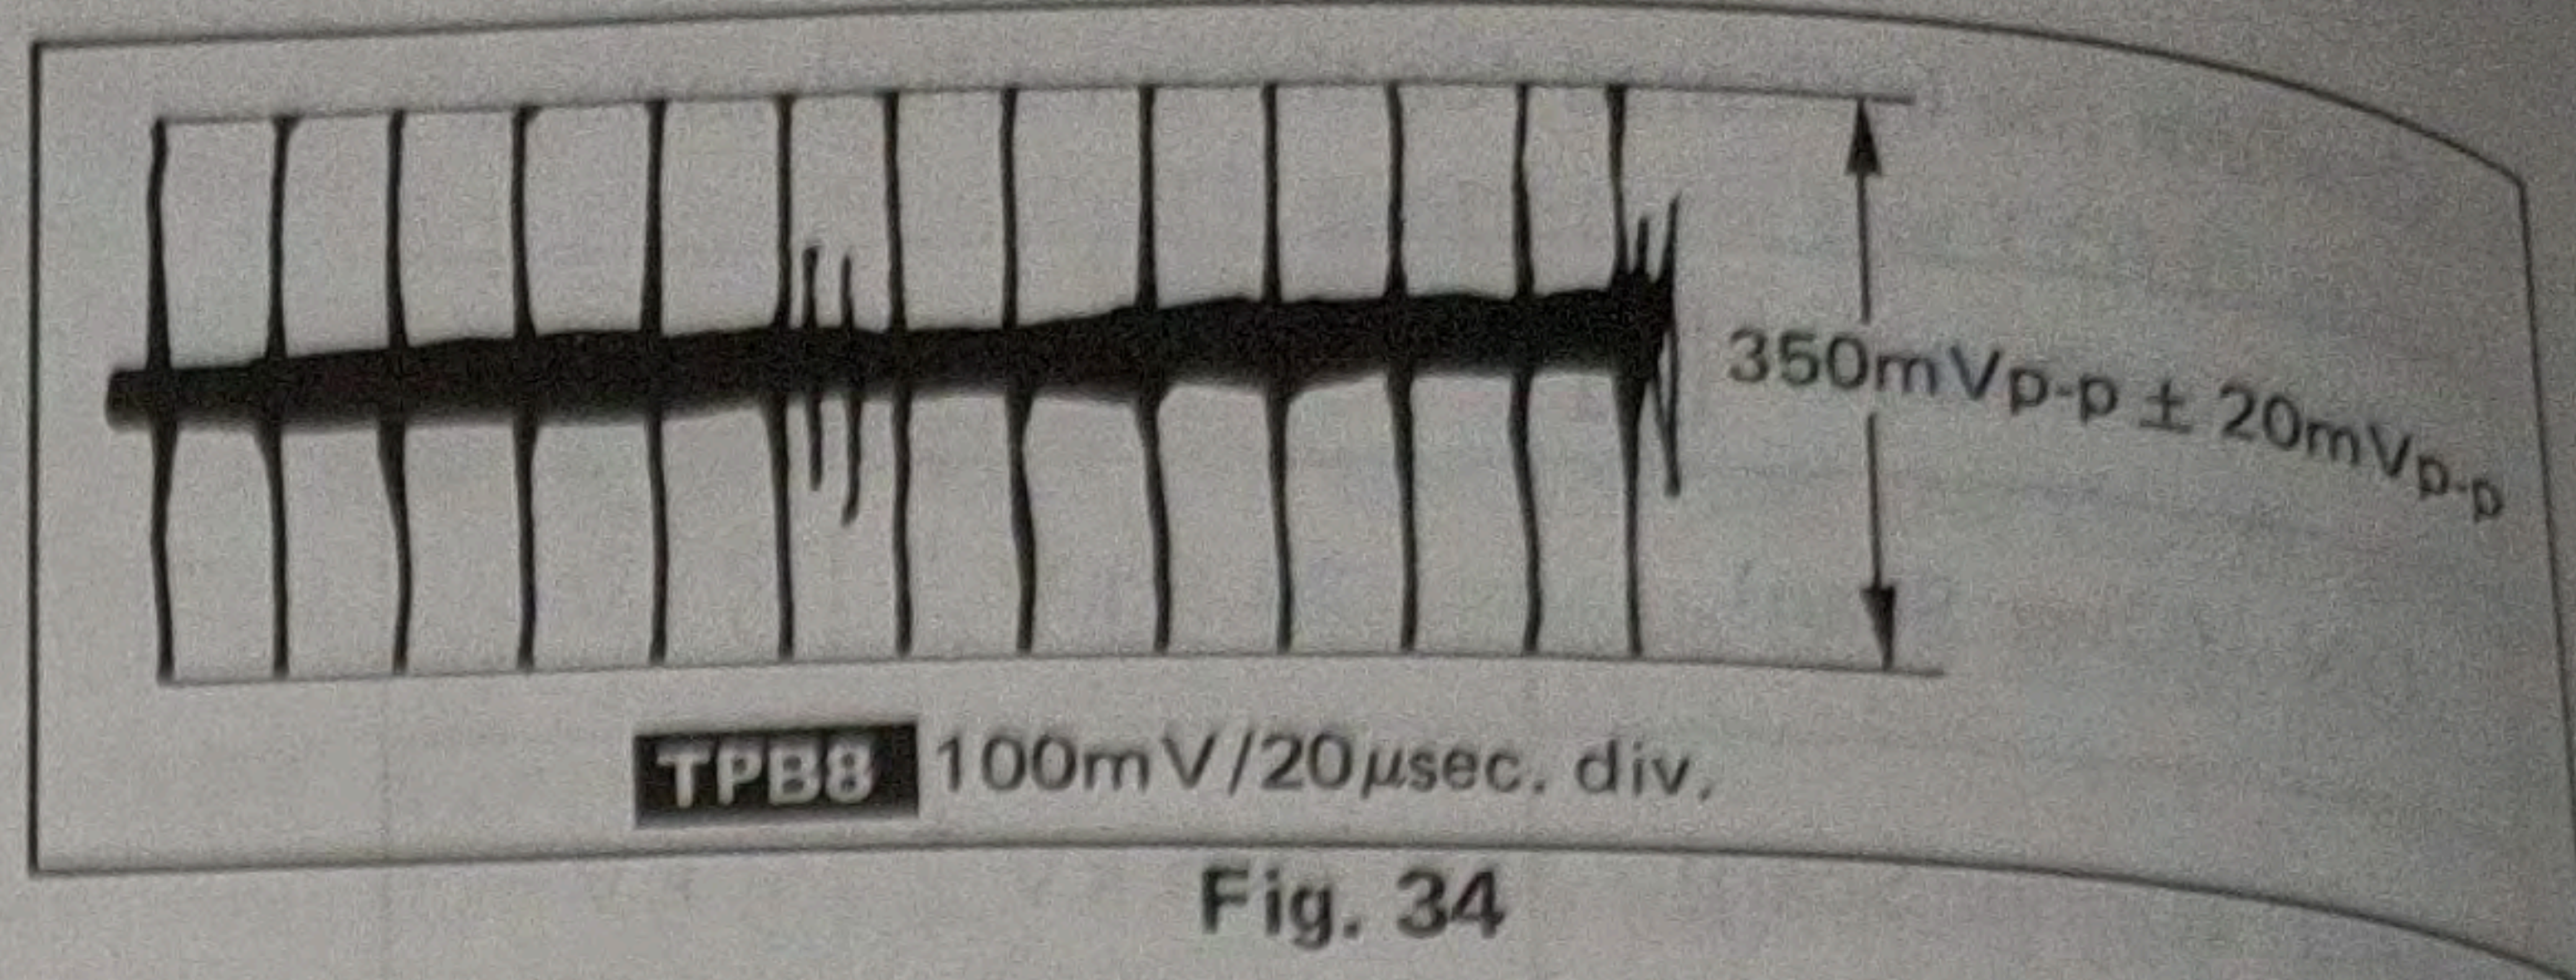

Fig. 34
4. Adjust R329 (APERTURE Adj.) so that the **TPB8** becomes 350mVp-p \pm 20mVp-p as shown in Fig. 34.